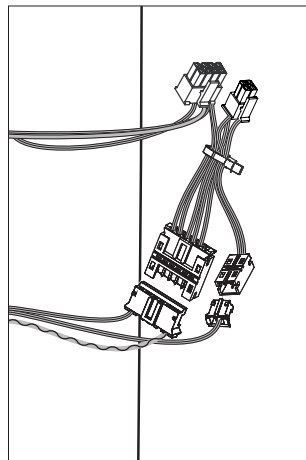

Fig. 6B
2. Connect 6- and 2-pin connectors from device to 6- and 2-pin connectors on reader harness (Fig. 6B, C).
6. Connect 6- and 2-pin connectors from device to 6- and 2-pin connectors on reader harness (Fig. 6B, C in previous step).